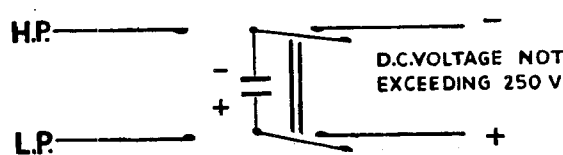

Fig. 6
- (1) Double-pole double-throw switch enables condenser to be polarised from D.C. source and then immediately transferred to Test-meter leads. (See Fig. 6.)